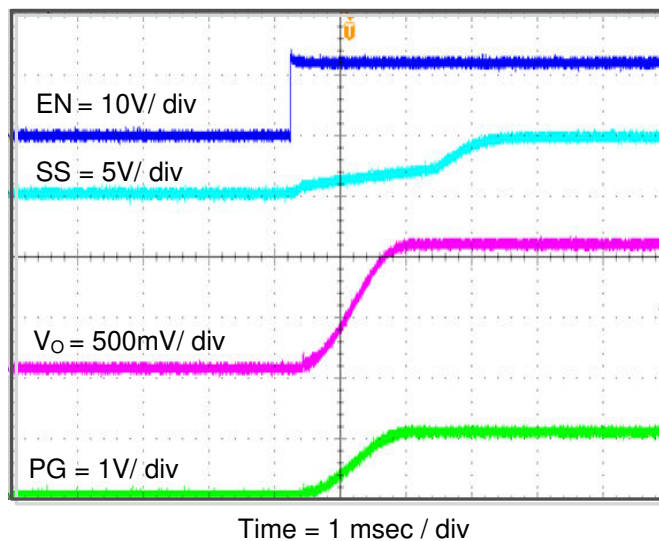

Figure 4-10. TPS563219AEVM-663 Start-Up Relative to EN
The TPS563219AEVM-663 start-up waveform relative to enable (EN) is shown in Figure 4-10. Load = 1 Ω resistive.